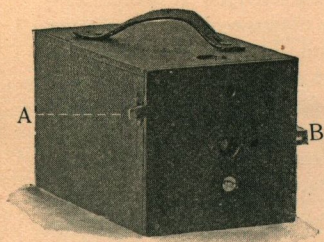
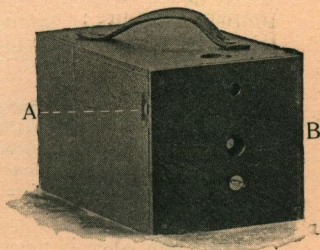

FIG. 2.
FIG. 3.
*For snap shots the exposure lever A and slide B must both be in, as shown in Fig. 3. Note the difference between Figs. 2 and 3.*